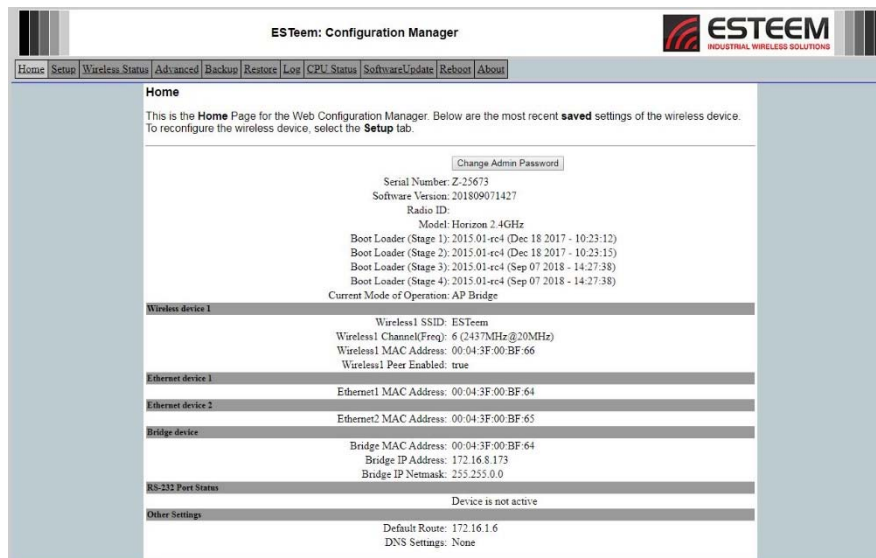

Figure 10: Horizon Home Page
- If this is the first configuration of the radio, enter the default Username “admin” and Password which is the Serial Number of the radio. Press the Enter key or the “Log in” button on the browser to open the Home page of the radio (Figure 10).